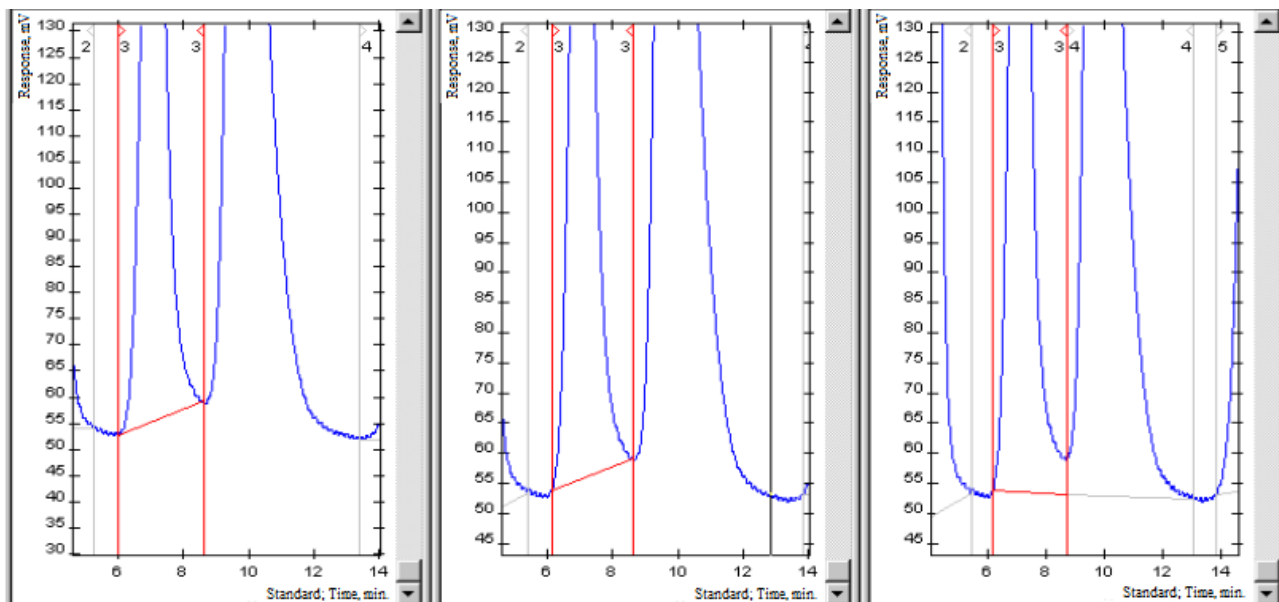

Fig. 56: 1) Initial marking. 2) Unsplit peak boundary identification. 3) Result.
3. Note the boundary of the unsplit peak (Fig. 56).